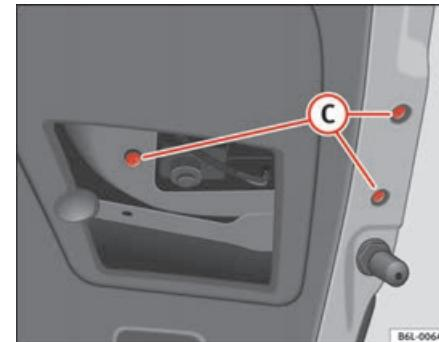

Fig. 163 Rear light on tailgate
- Extract the bolts **C** ⇒ page 224, fig. 163 and disconnect the connector.